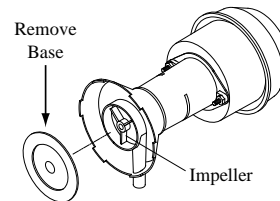

Fig. 12
- **Clean pump.** Cleaning the pump is necessary once a year at start-up. For your safety, turn unit off and unplug motor and pump. Remove the pump from the mount slot. Remove the base of the pump as shown in Fig. 12. Clean the pump and turn the impeller to ensure free operation. Remove the pump spout and check for any blockage. After cleaning, reinstall the base onto the pump. Press firmly to make sure it is secure. Reattach the pump to the mount in the cooler using the plastic retainer to ensure that the pump will not overturn. Do not forget to replace the spout and water delivery tube onto the pump outlet.